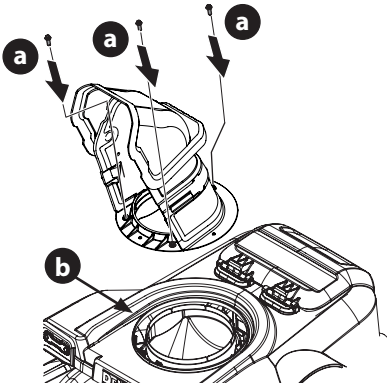

Figure 7
3. Secure the chute base with the hex washer screws (a) removed in Step 2 (Figure 7).